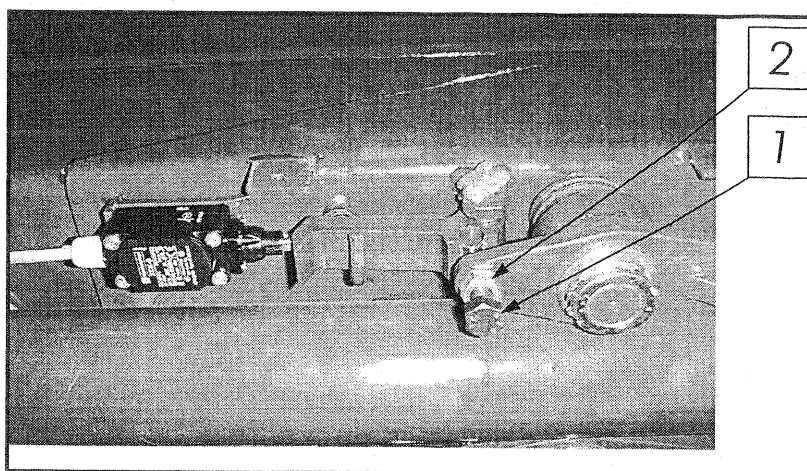

Figure 35-2
6. Loosen locking nut 2 of adjusting screw 1 (figure 35-2).